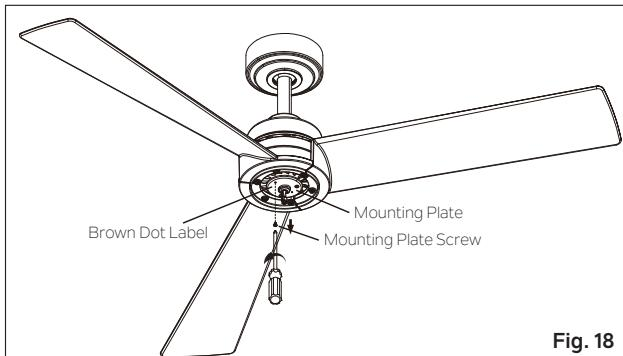

Fig. 18
Step 1. Remove the mounting plate screw that is marked with a brown dot label from the mounting plate. Retain mounting plate screw. Loosen the other two mounting plate screws (do not remove). (**Fig. 18**)